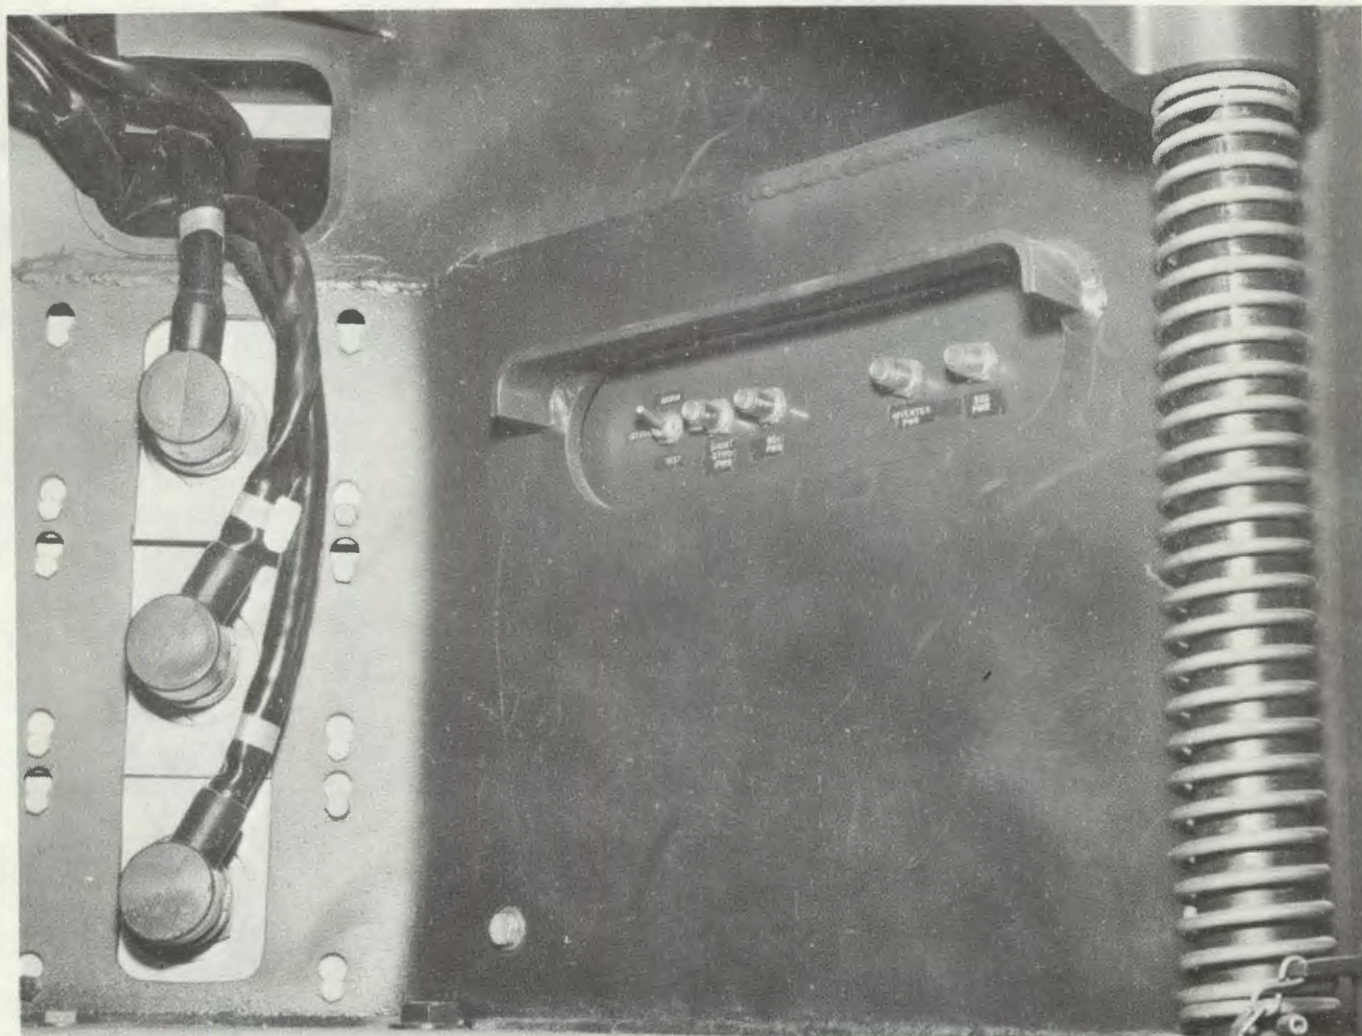

Figure 3-13. Gun distribution box.
c. Gun Distribution Box (fig. 3-13).
(1) NORM/STATIC/TEST switch. This